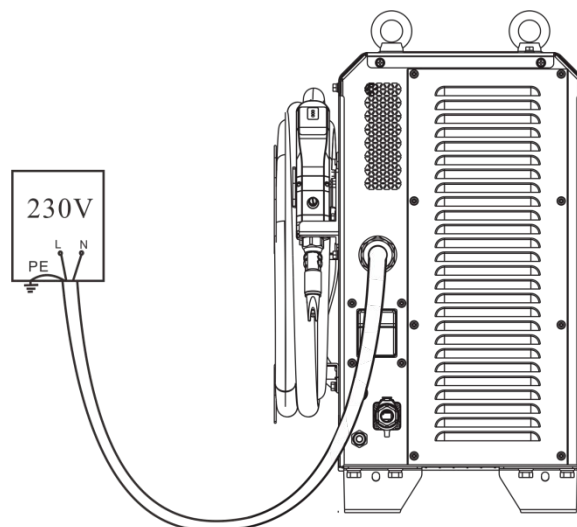

Figure 2-6 Power input connection diagram
1. This equipment operates on single-phase 220Vac power. Please ensure that the input power is connected to an effective protective ground; otherwise, it may lead to equipment damage and personal injury. The power connection is shown in Figure 2-6.